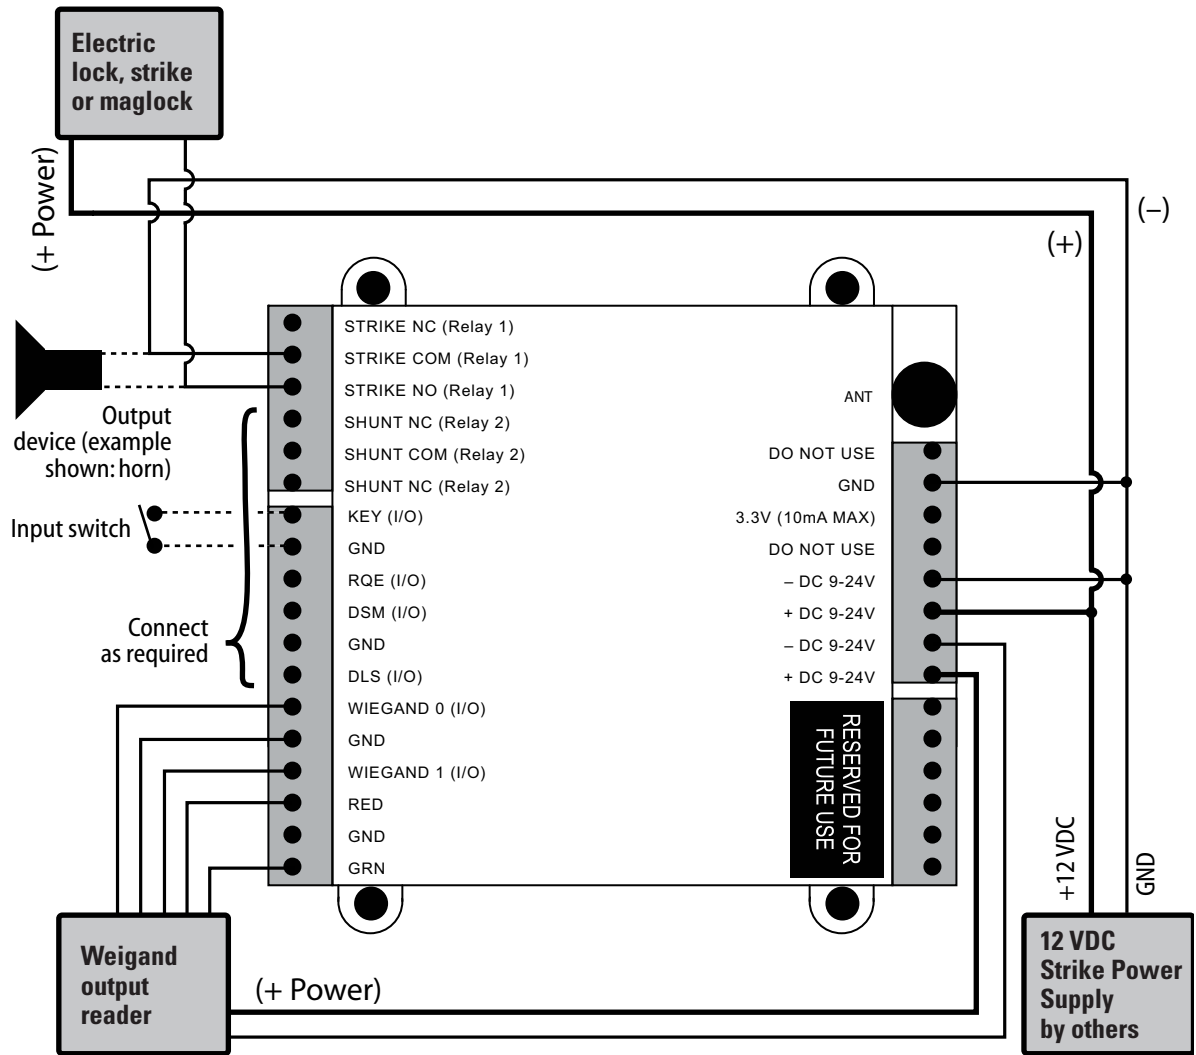

Figure 2 Wireless Access Controller, typical installation.
- 2 Using Figure 2 and Table 1 make the connections.